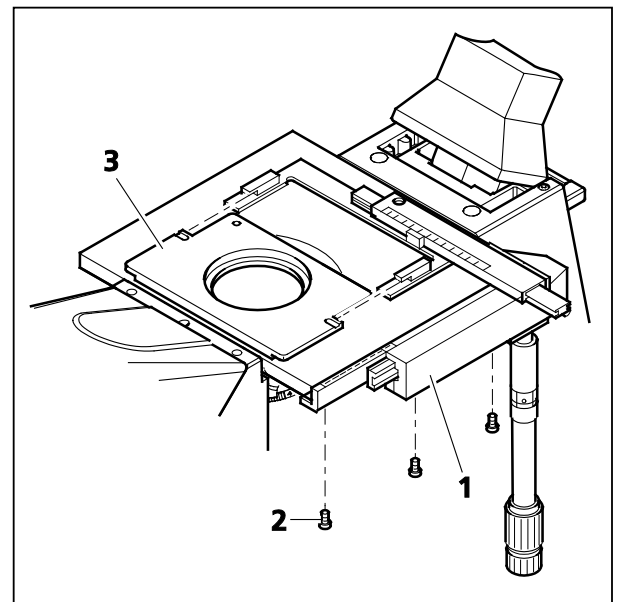

Fig. 29 Fitting the object guide and mounting frame
- Attach the object guide (Fig. 29/1) to the left or right side of the specimen stage and fix it in position from below using three Allen screws (Fig. 29/2).
- Then push mounting frame M for object guide (Fig. 29/3) under the two springs of the object guide from the front until it clicks into position.